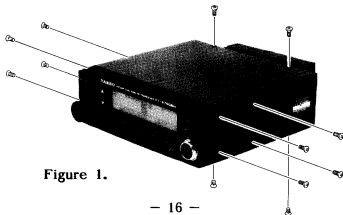

Figure 1.
- (1) Using the mounting bracket as a template, locate the mounting holes after determining the mounting location with sufficient clearance for the transceiver, and space for ventilation around the heatsink. Use a 4.8mm (3/16") bit to drill the holes. Secure the bracket with the supplied screws, washers and nuts (Fig. 1).
- (1) Disconnect the DC power cable, and referring to Figure 1, remove the six screws affixing the top cover (to install the 2m FTS-8) and/or the bottom cover (to install the 70cm FTS-8). Be careful not to strain the speaker wires if installing the 70cm FTS-8.